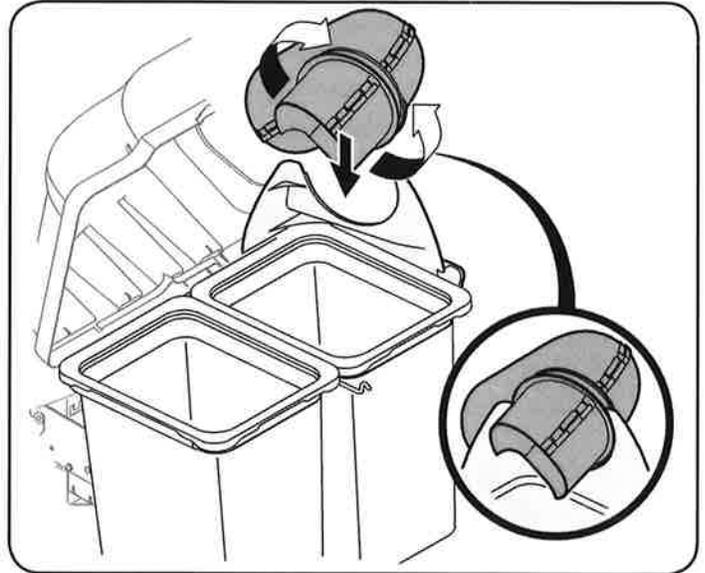

Figure 27
4. Continue to work the discharge chute down over the chute elbow until the groove on the discharge chute aligns with the upper chute support, as seen in the inset of Figure 27.